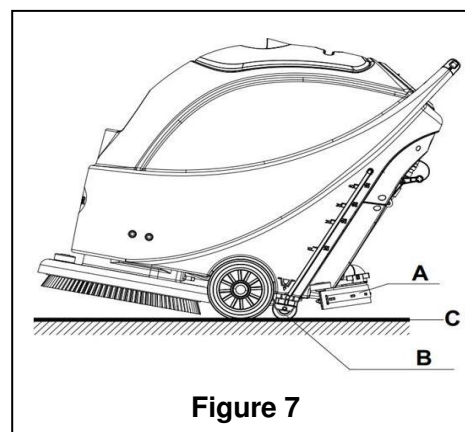

Figure 7
8. Release the safety switch (1) to turn off the brush/pad-holder and solenoid valve.
9. Press the Vacuum switch (39) to the "Off" position, and the Vacuum will delay for 5 seconds before stopping work.
10. Press the solution control switch (40) to the "Off" position to completely turn off the solution flow.
11. Press the power switch (38) to the "Off" position. And disconnecting the power cable (9) from the power supply.
12. Use the squeegee lift handle (14) to lift the squeegee.
13. Grasp the handle (2) and gently tilt the machine backward until the guide wheel (B) touches the floor. See Figure 7.